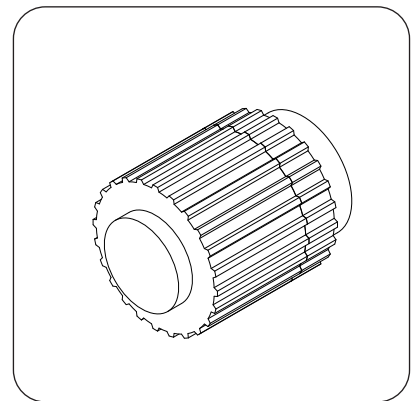
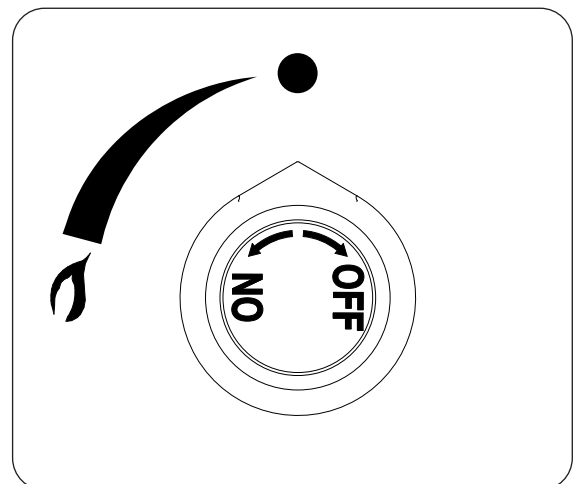

Fig. 51-1 Igniter button detail
Fig. 51-2 Control knob detail
2. Locate the control panel on the side of the unit (refer to the IDENTIFICATION PARTS LIST if needed), and identify the igniter button (Fig. 51-1) and gas control knob (Fig. 51-2). Ensure the gas control knob is in the OFF position before beginning the lighting sequence.
**To extinguish your gas burner**, turn the gas control knob clockwise to the **OFF** position (see Fig. 51-2). Be sure the control knob is turned fully off to avoid any gas leakage.